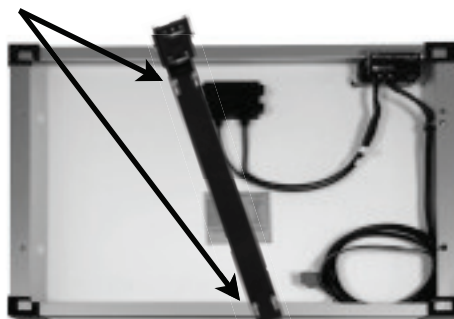

Figure 3A
6. Lay the Mounting Arm across the Solar Panel with the Clamp Plates down. Position the Mounting Arm at an angle so the Clamp Plates slide under the lip of the Solar Panel (Figure 3A).